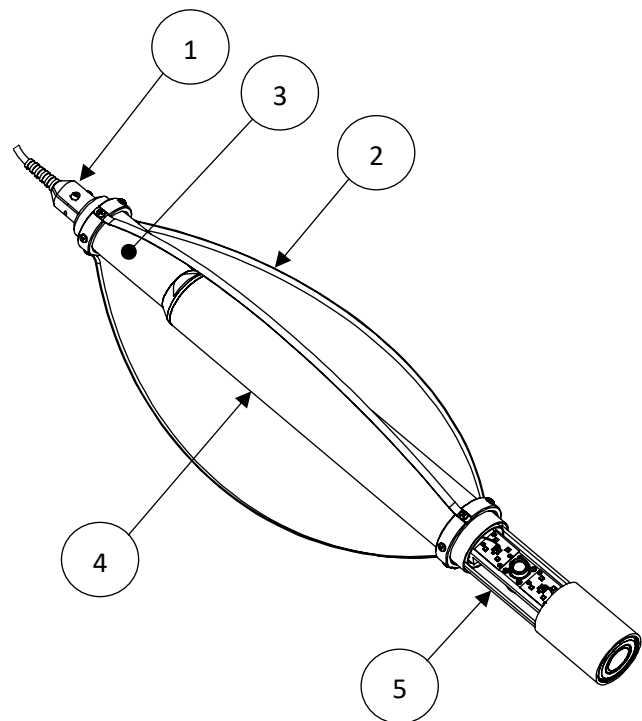

Figure 3
6. Before connecting the Camera to the Cablehead (Figure 3 Item 1) inspect the O-rings in both connectors to be sure they are clear of debris or any contamination. Also check for any wear or damage. The O-rings should also be re-lubricated on a regular basis. Use a NEMA-rated O-rings lubricant.
7. Slide the Centering Band Assy (Figure 3 Item 2) and Upper Support Tube (Figure 3 Item 3) beveled end first, over and past the Cablehead (Figure 3 Item 1). Connect the Twist Locking Cablehead Connector to the Camera by carefully aligning the keyway on the connectors together and twisting the lock until seated. **The cable head connector should only be hand tightened. Never over tighten the connectors or upper support tube.**
8. Thread the Upper Support Tube to the top of the Camera. Position the Lower Centering Band Collar on the Camera Housing (Figure 3 Item 4) at least $\frac{1}{2}$ " above the Side View Port (Figure 3 Item 5). **DO NOT ATTACH THE CENTERING BAND COLLAR TO WITHIN $\frac{1}{2}$ " OF THE GLASS PORT.** Position the Upper Collar on the Upper Support Tube so that the Centering Bands are extended to approximately $\frac{1}{2}$ inch less than the diameter of the well or borehole being inspected.